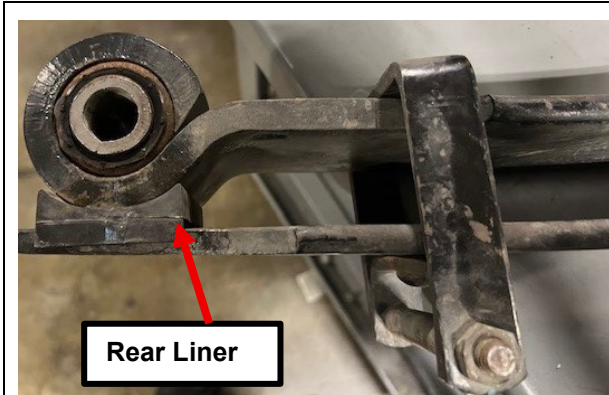

Figure 18
24. Remove the block of wood and guide the upper spring leaf back into place. Ensure that the front and rear eyelet plastic liners are in place properly. (See Figures 18 and 19.)